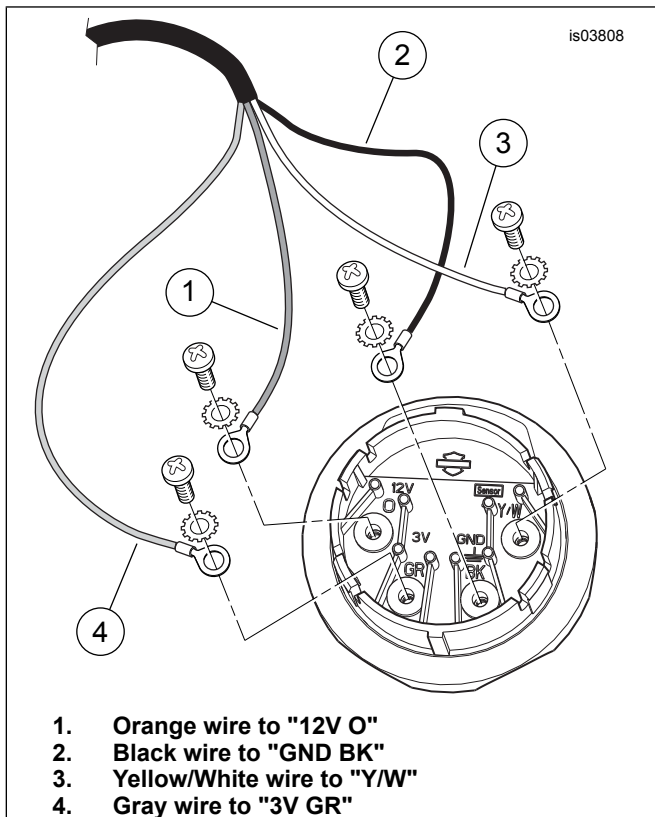

Figure 1. Wire Connections, Kits 75087-04, 75091-04
2. Four Phillips-head screws (11) and four star washers (12) come pre-assembled to the connections on the underside of the gauge. Remove the screws and washers to connect the wires as follows: See Figure 1. Fasten the Orange wire (1) ring terminal to the gauge connection marked "12V" and "O" with a screw and washer. Fasten the Black wire (2) ring terminal to the connection marked "GND" and "BK" with a screw and washer. Fasten the Yellow/White wire (3) ring terminal to the connection marked "Y/W" with a screw and washer.